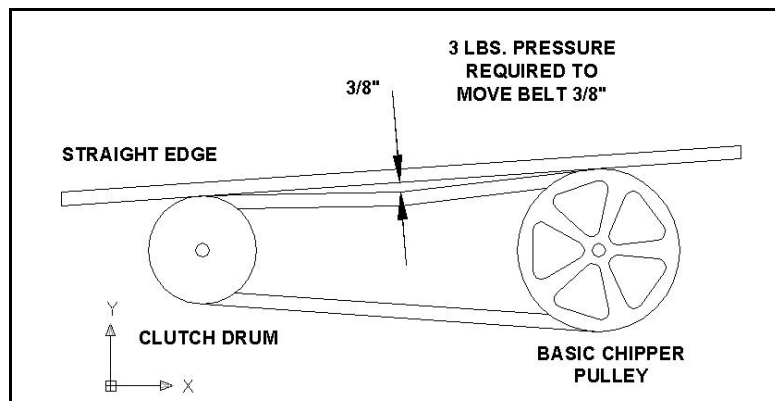

Figure 1
5. Care must be exercised when sharpening the knife to maintain the correct bevel and a straight edge. Refer to sharpening directions. When you install a knife, the clearance between the knife and wear plate must be checked and set. This clearance or gap should be set to 1/16" (see figure 1).
The belt on your chipper should deflect $\frac{3}{8}$ " under three pounds of pressure as shown in figure 1 below. If it doesn't, adjust per the following directions.
- Tighten or loosen the nut on the belt tensioner until you have the correct tension as shown in figure 1.